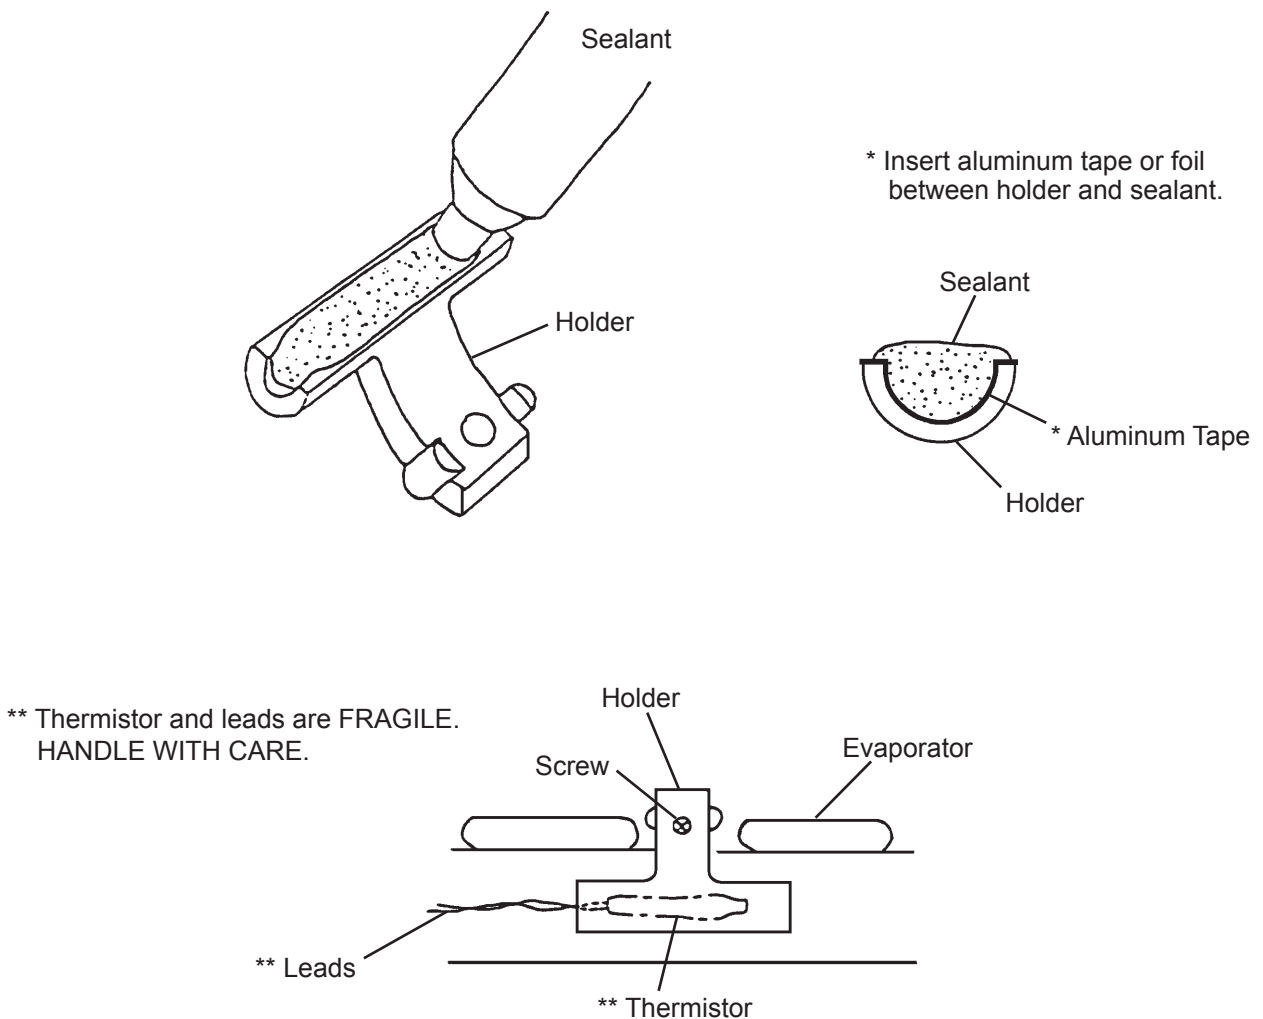

Fig. 17
- 5) Install the new thermistor in the reverse order of the removal procedure, by using a sealant (high-thermal conduct type). See Fig. 17.